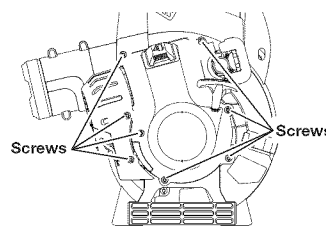

Fig. 20
1. Remove the 8 engine cover screws with the appropriate tool (Fig. 20), then remove the cover.
NOTE: Make sure that the screws are reinstalled into their original holes (Fig. 20).